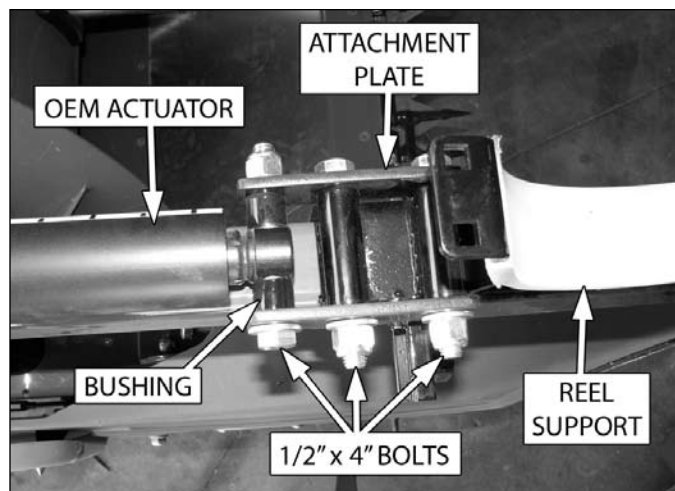

Figure 27, Reel support for all other headers (LH shown)
- All other headers:** Install an attachment plate to each side of the reel support with two 1/2" x 4" bolts, washers and nylock nuts. Then, attach the rear holes of the attachment plates to the piston of the OEM actuator. Use a 1/2" x 4" bolt, two bushings, washers, and a nylock nut (Figure 27).